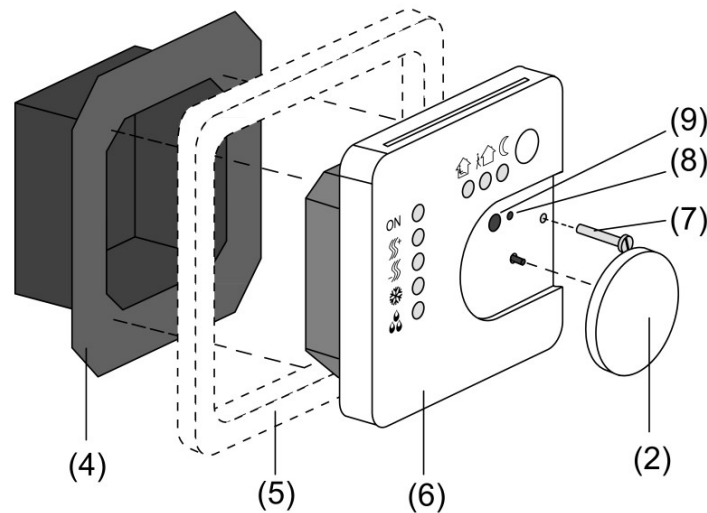

Figure 2: Device components
(4) Connection terminal insert
(5) Cover frame
(6) Electronics cover
(7) Retaining screw
(8) Programming LED
(9) Programming button
Separate the connection terminal insert (4) and the electronics cover (6) (see figure 2).
Insert the connection terminal insert (4) (see figure 2) in the flush-mounted appliance box. Observe the labelling OBEN / TOP. The bus connection (11) must be at the bottom, right (see figure 3).
Pull off the adjustment dial (2) (see figure 2).